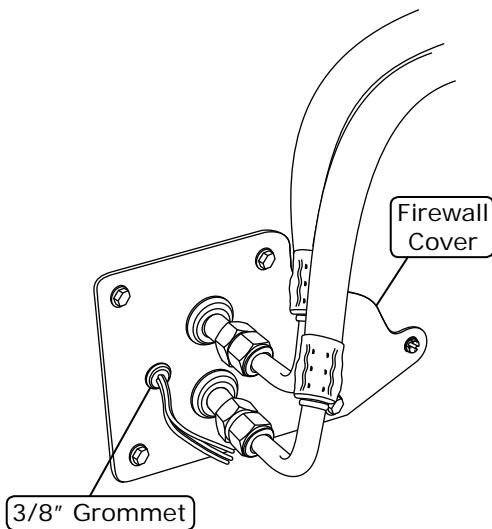

Figure 11
2. Route A/C wires (12 volt/grounds/binary switch/heater valve) through 3/8" grommet as shown in Figure 11, below.